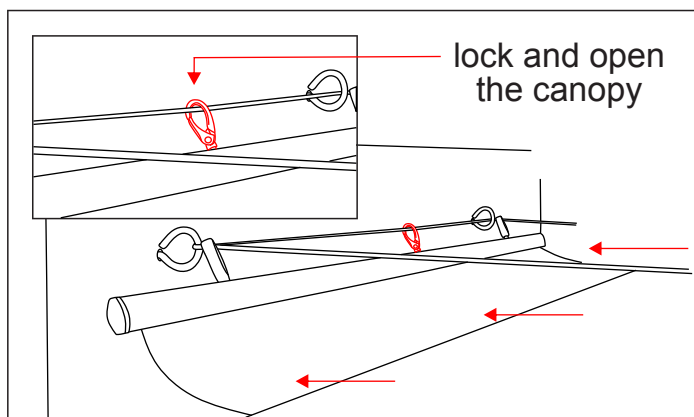
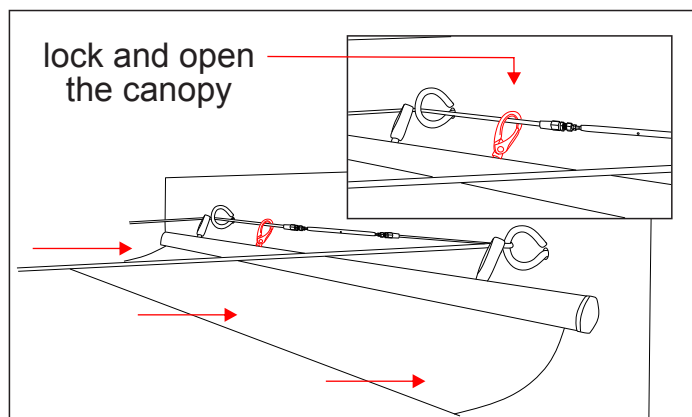

Fig. 26
Fig. 27
- Move the installed canopy to each end and select the desired position for the middle clip so it can easily attach to the crossing cables on either side (Fig.26 - Fig. 27). Secure the clip in place by screwing it with the gate facing the crossing cable. You can now lock and open the canopy from either end.